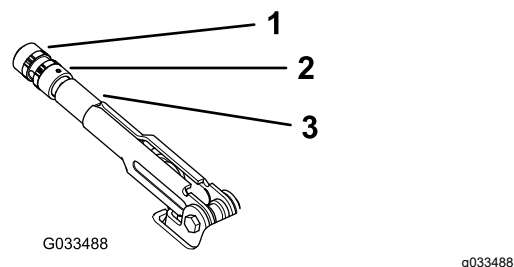

Figure 59
3. Rotate the knob (Figure 59) until a force of 20 to 22 kg (45 to 50 lb) is required to actuate the lever.
4. Tighten the set screw when finished (Figure 59).
2. Loosen the set screw securing the knob to the parking-brake lever (Figure 59).